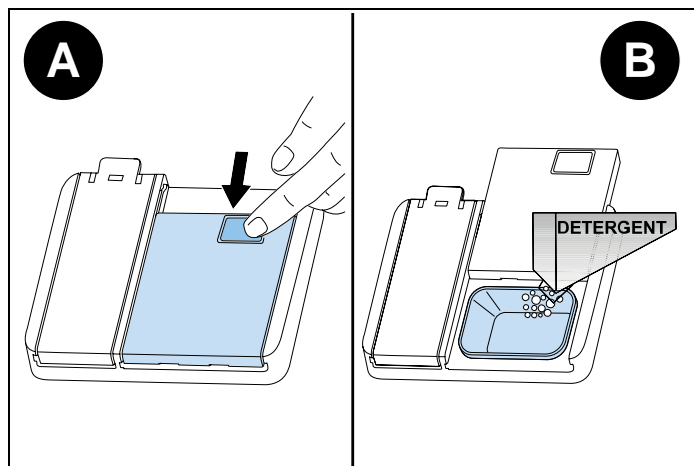

Fig. 67
- 1) Push the latch to open the detergent container as shown in the image (Fig. 67 A)
- 2) Pour/put the detergent into the dispenser (Fig. 67 B)